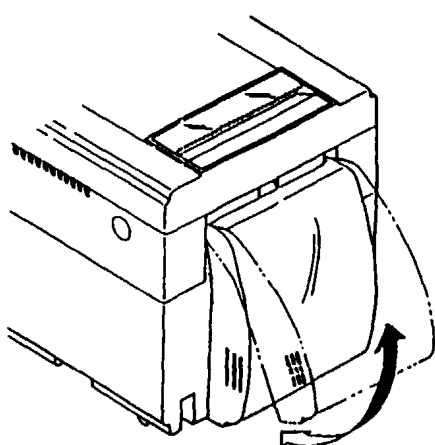

Fig. 9
- 1) Setting and removing the paper cover and the stacker as shown in Fig.9, 10.